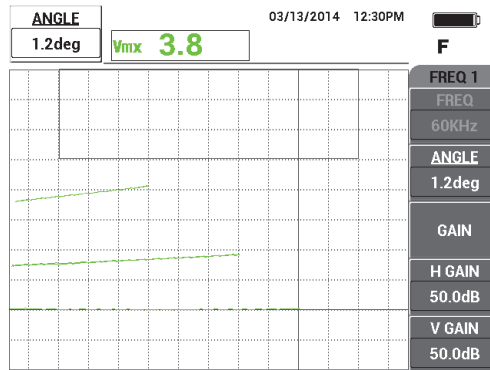

Figure 5-81 Adjusting the lower signal to horizontal
9. Press the ANGLE key (◁), and then adjust the lower signal (45 % conductivity) so that it is horizontal (see Figure 5-81 on page 186).